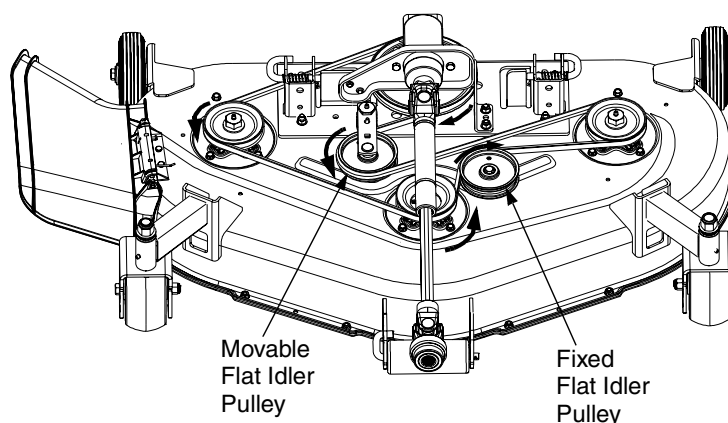

Figure 52
3. Route the belt as follows (Refer to Figure 52):